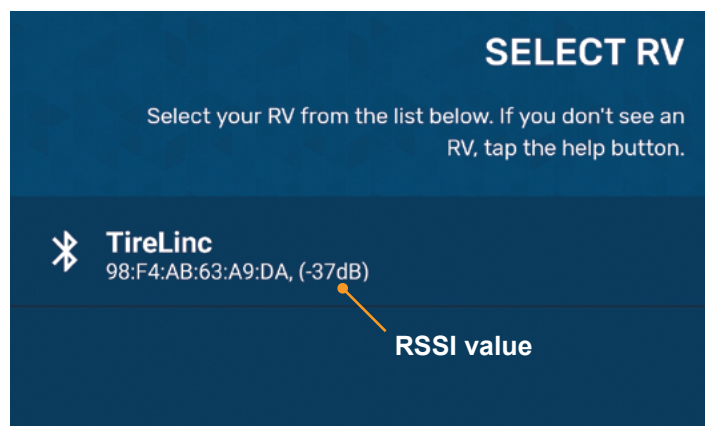

Fig.7
6. Look for Tire Linc and press the listing. If more than one Tire Linc option appears in the list, select the one with the strongest RSSI value. The RSSI value shown in figure 7 (-37dB) is displayed at the end of the listing. For example, to determine a stronger RSSI value: